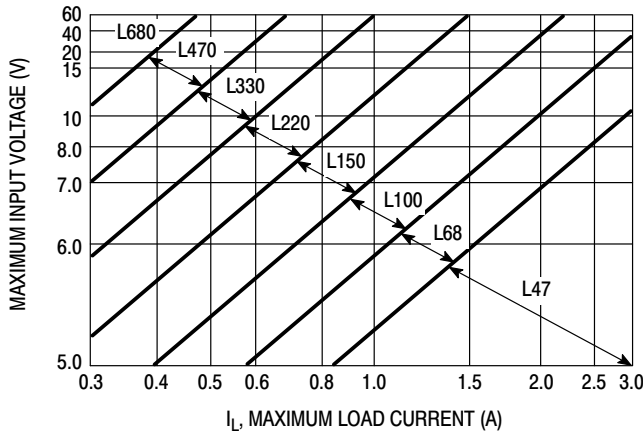
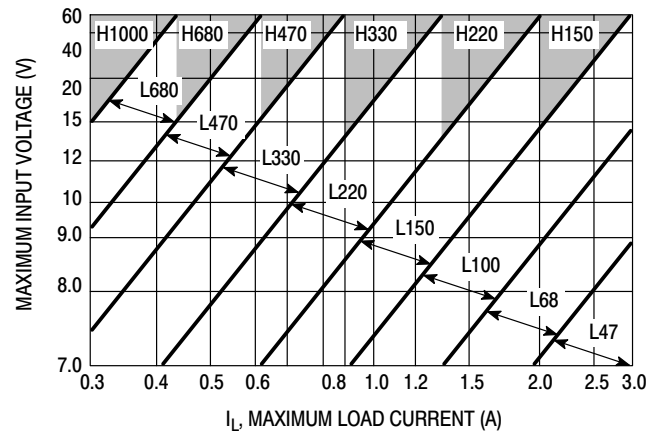

Figure 18. LM2576-3.3
Figure 19. LM2576-5
4. Inductor Selection ($L1$) A. According to the required working conditions, select the correct inductor value using the selection guide from Figures 18 to 22. B. From the appropriate inductor selection guide, identify the inductance region intersected by the Maximum Input Voltage line and the Maximum Load Current line. Each region is identified by an inductance value and an inductor code. C. Select an appropriate inductor from the several different manufacturers part numbers listed in Table 2. The designer must realize that the inductor current rating must be higher than the maximum peak current flowing through the inductor. This maximum peak current can be calculated as follows: $I_{p(max)} = I_{Load(max)} + \frac{(V_{in} - V_{out}) t_{on}}{2L}$ where t_{on} is the "on" time of the power switch and $t_{on} = \frac{V_{out}}{V_{in}} \times \frac{1.0}{f_{osc}}$ For additional information about the inductor, see the inductor section in the "Application Hints" section of this data sheet.	4. Inductor Selection ($L1$) A. Use the inductor selection guide shown in Figures 19. B. From the selection guide, the inductance area intersected by the 15 V line and 3.0 A line is L100. C. Inductor value required is 100 μ H. From Table 2, choose an inductor from any of the listed manufacturers.
To simplify the inductor selection process, an inductor selection guide for the LM2576 regulator was added to this data sheet (Figures 18 through 22). This guide assumes that the regulator is operating in the continuous mode, and selects an inductor that will allow a peak-to-peak inductor ripple current to be a certain percentage of the maximum design load current. This percentage is allowed to change as different design load currents are selected. For light loads (less than approximately 300 mA) it may be desirable to operate the regulator in the discontinuous mode, because the inductor value and size can be kept relatively low. Consequently, the percentage of inductor peak-to-peak current increases. This discontinuous mode of operation is perfectly acceptable for this type of switching converter. Any buck regulator will be forced to enter discontinuous mode if the load current is light enough.